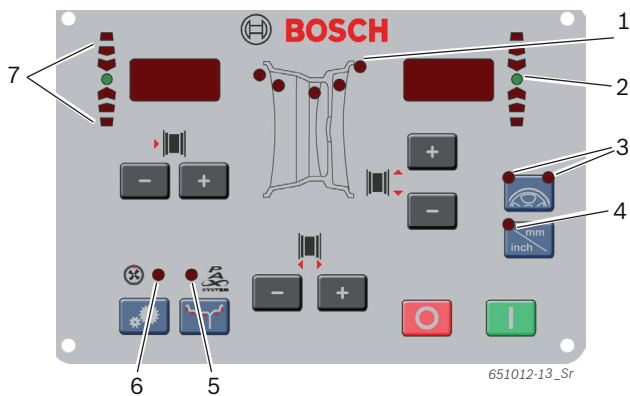

Fig. 5: LEDs on control/display panel
➔ The LEDs (Fig. 5, Item 1) indicate the positions of the balancing levels for each balancing program.
i When a PAX balancing program is selected, the Pax LED (Fig. 5, Item 5) also lights up.
- ⇒ Both <SPLIT> button LEDs (Fig. 5, Item 3) light up.
- ⇒ As soon as the position for attaching the balancing weight is reached, the LED (Fig.5, Item 2) lights up. An acoustic signal confirms that the position is correct (behind a spoke).